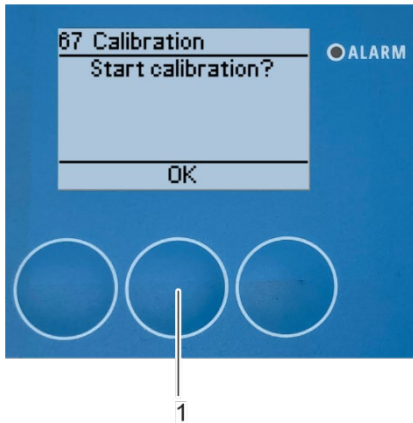

Fig. 111: Start calibration
5. Start the calibration with [OK] (Fig. 111/1).